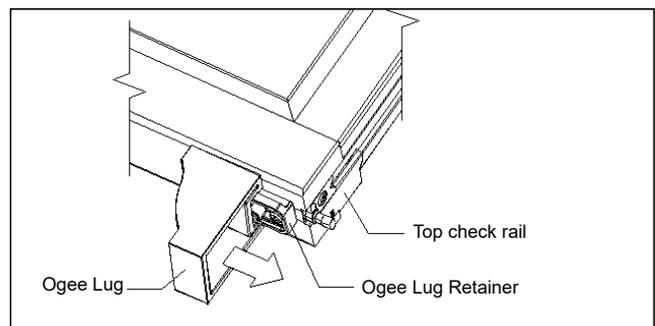

Figure 4
6. Slide the Ogee Lug onto the retainers and tap with the plastic tipped hammer until the Ogee Lug is flush with the edge of the sash. See figure 4.